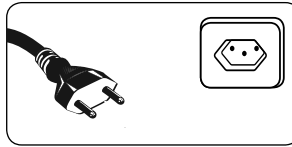

FIGURE 8.1 – CONNECTION OF THE PLUG TO THE INLET
Figure 8.1 shows the connection plug-inlet. For your safety against electric shock, only use your paint spray in structures with residual differential circuit breaker (RD) of 30mA. If necessary, hire an electrician you trust and ask for the installation of this safety component part.